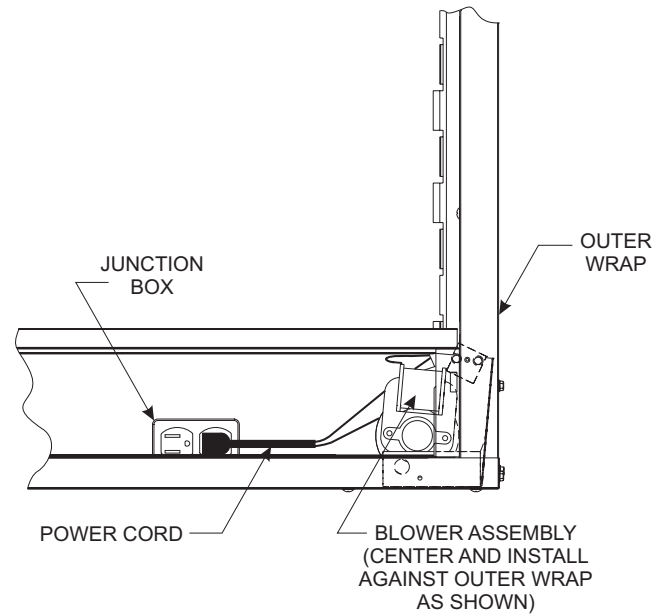

Figure 23
4. Insert blower assembly into interior, bottom of firebox. **NOTICE:** On peninsula models, the blower must be installed at the end which has the brick panel installed. Position blower assembly so that you align the notch on back of blower assembly with the center screw on side/end panel, then push the blower assembly against firebox outer panel. The blower wheel must be centered with the side/end wall of the firebox. The magnets on the back and bottom of blower assembly will sufficiently hold blower assembly in place. **See Figure 23.**
8. To complete the installation, plug the power cord into the junction box receptacle previously installed in the bottom of the fireplace. **See Figure 23.**